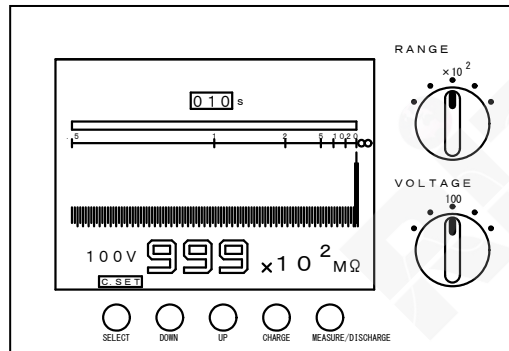

Fig. 6.6.4
- 4) Using the UP or DOWN switch, set the charging time to  $010$  seconds. (Fig. 6.6.4)